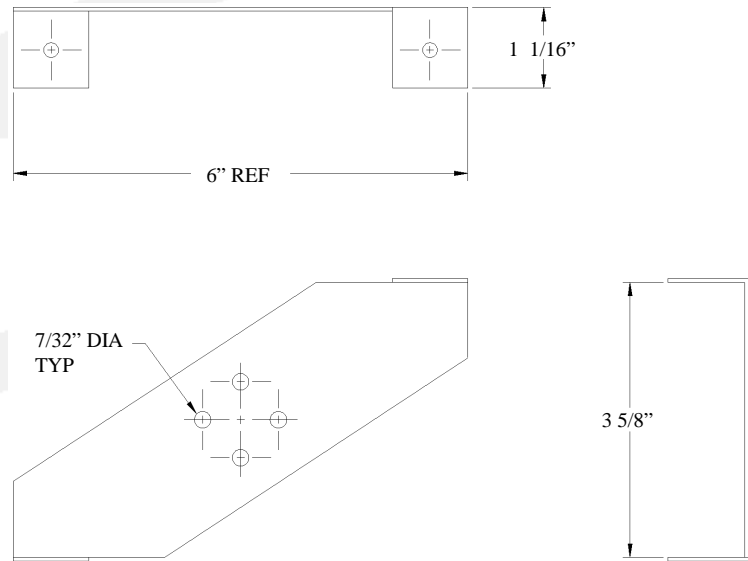

Figure 2
- When installing more than one linear ionizer in an application, don't place the ionizers directly opposite each other on both sides of the material. They should be mounted on NRD Z brackets, separately available from NRD LLC. (see Figure 2)